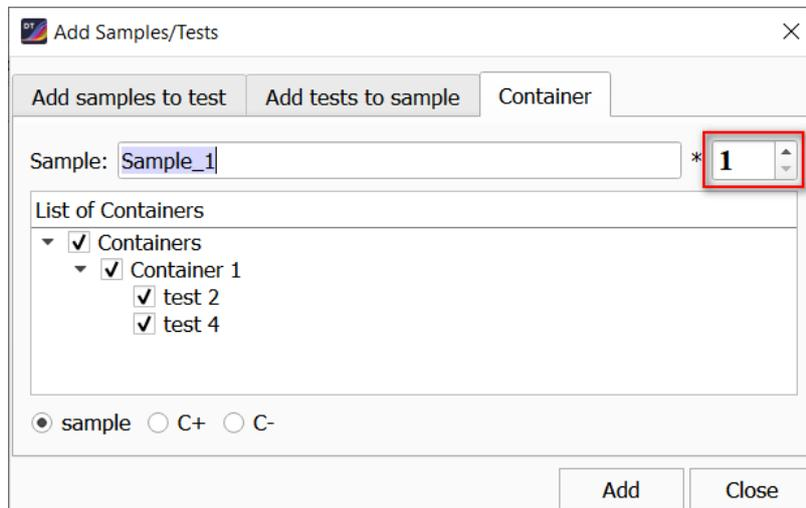

Figure 27 – Selecting tests and the number of samples in the **Container** tab
- Select the required number of tests (fig. 27). If necessary, specify the number of samples for which the marked set of containers or tests will be used.